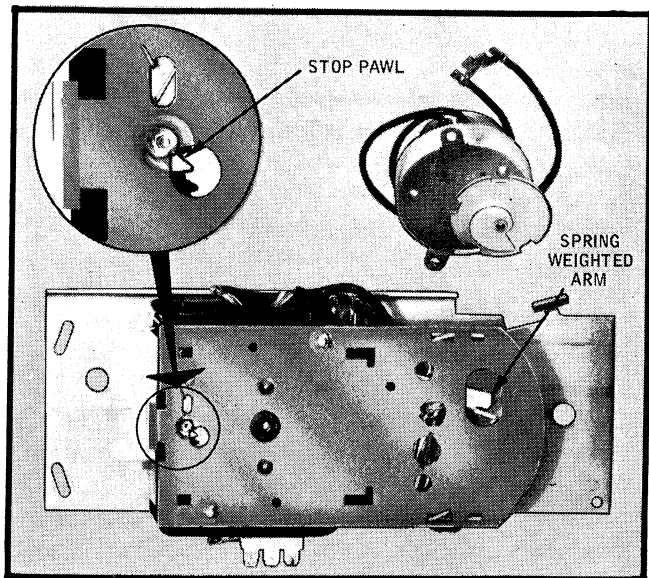

Figure 19
3. Depress button #2 of mechanism and rotate timer shaft to cycle two, starting point with knob pulled out. The point of stop pawl as viewed through the inspection hole on back plate must fit the gear tooth, which is visible, *Figure 19*. You may have to readjust by rotating timer slightly with respect to mechanism, and recheck by slowly rotating timer knob to #2 starting point, *Figure 19*.